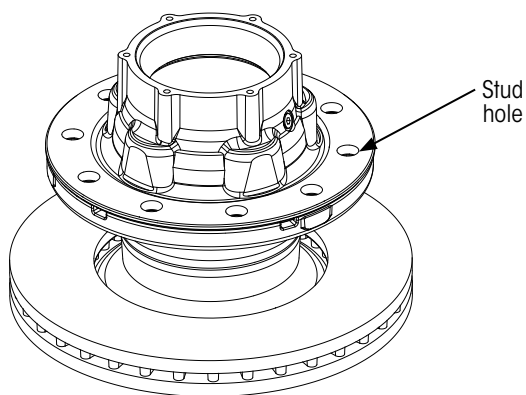

Figure 14: Aligning hub and rotor
2. **Gently place** the hub on the rotor mounting face and carefully align the stud holes (Figure 14 on page 5).